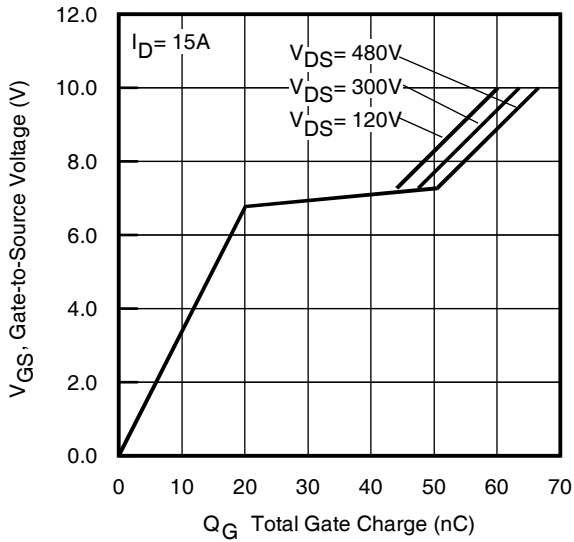

Fig 7. Typical Gate Charge vs. Gate-to-Source Voltage
| Q_{gd} | Gate-to-Drain ("Miller") Charge | — | — | 46 | nC | $V_{GS} = 10V, \text{See Fig. 7 \& 15 } \text{④}$ |